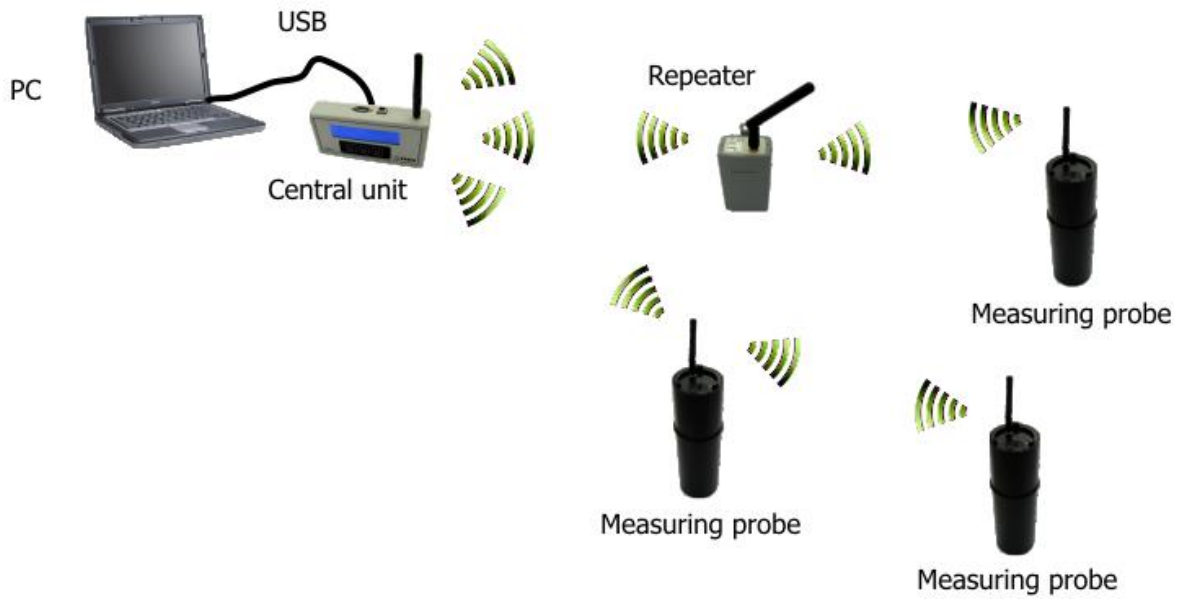

Figure 1 - TCR4 terminal in TERA System for Radon Concentration Measurement
- A) TERA System for Radon Concentration Measurement (Figure 1)